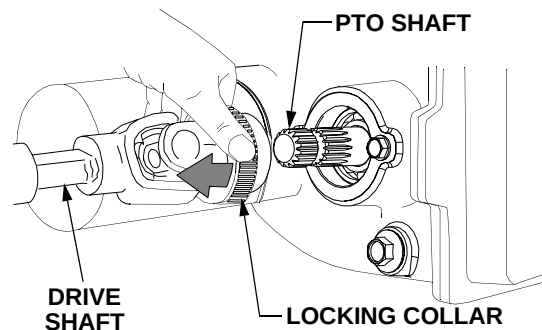

Figure 55
- Compress the locking collar and disconnect the deck drive shaft from the tractor PTO shaft (See Figure 55). Pivot the drive shaft to the side as far as possible.
- Compress the locking collar of the drive shaft and slide the drive shaft fully onto the PTO shaft protruding from the front of the transmission housing. Release the collar and check to ensure the drive shaft is locked onto the PTO shaft. Refer to Figure 55.